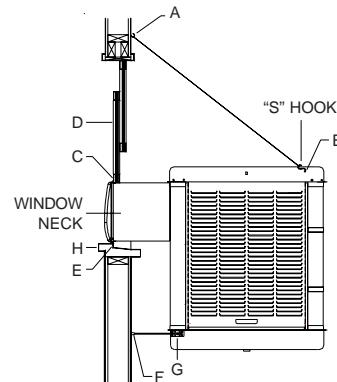

FIG. 1
- **Screw chain hooks into window facing.** Position the two chain hooks above the neck of the cooler a distance equal to the width of the cooler apart (A-Fig. 1). Hook one hanger chain in each hook and then one "S" hook in the other end of each chain. **NOTE:** Chain hooks supplied with this mounting kit have wood screw threads for wood walls. Concrete, brick walls or concrete blocks require sufficiently strong wing nuts or anchors with mating hooks.
- **Position cooler in window.** Position neck of cooler so that bottom of neck flange rests on window sill and flange (E-Fig. 1) is snug against edge of sill (H-Fig. 1). With cooler in position, hook the "S" hooks into the holes of the top panel near the back of the cooler (B-Fig. 1).
- **Place window behind retainer strip.** Raise back of cooler so that the window (D-Fig. 1) may be brought down behind top of panel retainer strip (C-Fig. 1).
- **Adjust house legs.** Pull out house legs so that the rubber bumpers rest against house siding (F-Fig. 1). Tighten screw in retaining collar. (G-Fig. 1).